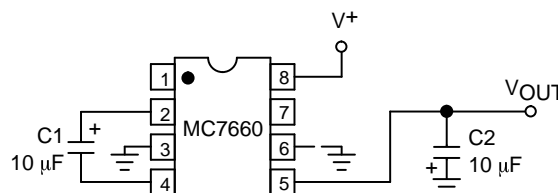
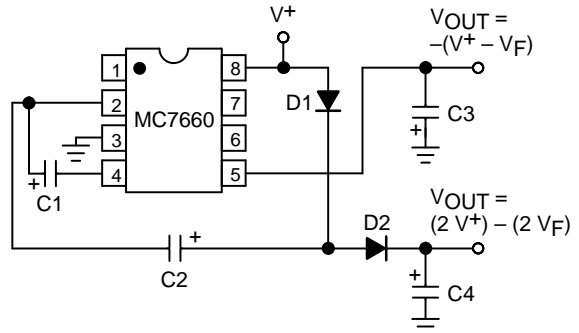
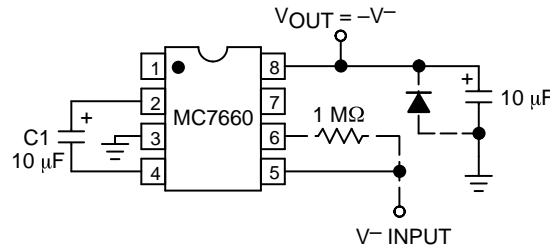
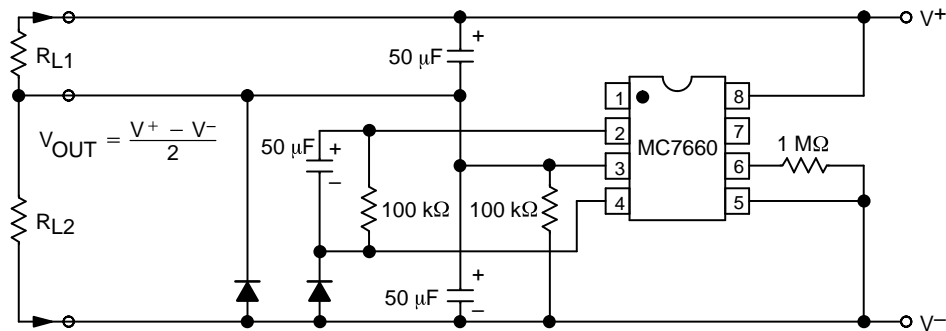

Figure 3. Simple Negative Converter
Figure 9. Combined Negative Converter and Positive Multiplier
Figure 10. Positive Voltage Conversion
Figure 11. Splitting a Supply in Half
Figure 3 shows typical connections to provide a negative supply where a positive supply is available. A similar scheme may be employed for supply voltages anywhere in the operating range of +1.5V to +10V, keeping in mind that pin 6 (LV) is tied to the supply negative (GND) only for supply voltages below 3.5V.
The output characteristics of the circuit in Figure 3 are those of a nearly ideal voltage source in series with 70Ω. Thus, for a load current of -10mA and a supply voltage of +5V, the output voltage would be -4.3V.
Figure 9 combines the functions shown in Figures 3 and 8 to provide negative voltage conversion and positive voltage multiplication simultaneously. This approach would be, for example, suitable for generating +9V and -5V from an existing +5V supply. In this instance, capacitors C_1 and C_3 perform the pump and reservoir functions, respectively, for the generation of the negative voltage, while capacitors C_2 and C_4 are pump and reservoir, respectively, for the multiplied positive voltage. There is a penalty in this configuration which combines both functions, however, in that the source impedances of the generated supplies will be somewhat higher due to the finite impedance of the common charge pump driver at pin 2 of the device.
Since the switches that allow the charge pumping operation are bidirectional, the charge transfer can be performed backwards as easily as forwards. Figure 10 shows a MC7660 transforming $-5V$ to $+5V$ (or $+5V$ to $+10V$, etc.). The only problem here is that the internal
clock and switch-drive section will not operate until some positive voltage has been generated. An initial inefficient pump, as shown in Figure 9, could be used to start this circuit up, after which it will bypass the other (D_1 and D_2 in Figure 9 would never turn on), or else the diode and resistor shown dotted in Figure 10 can be used to "force" the internal regulator on.
The same bidirectional characteristics used in Figure 10 can also be used to split a higher supply in half, as shown in Figure 11. The combined load will be evenly shared between the two sides. Once again, a high value resistor to the LV pin ensures start-up. Because the